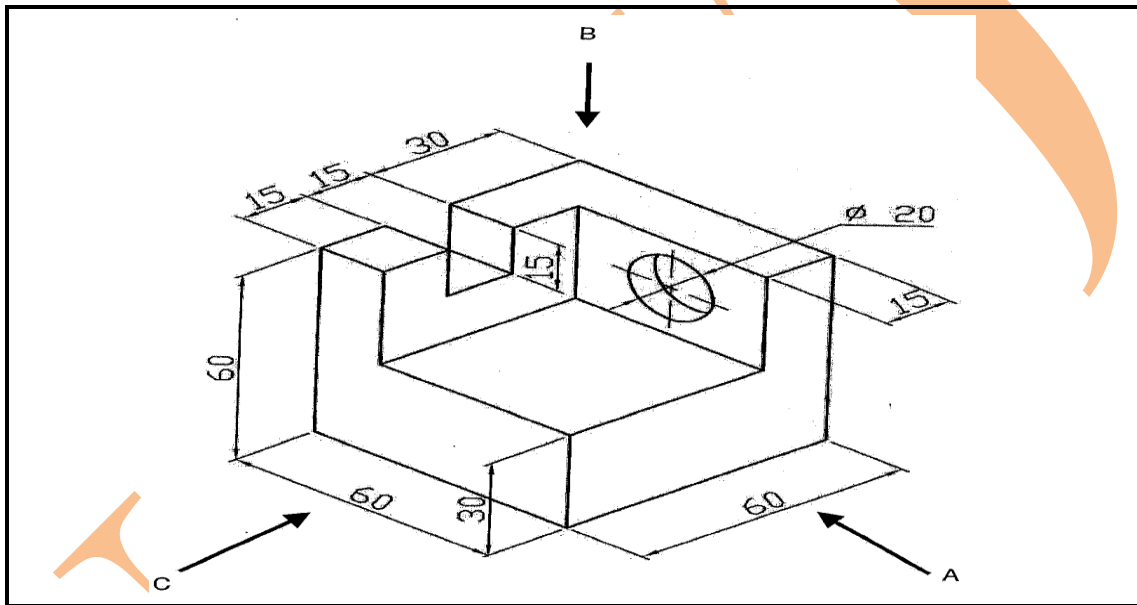

FIGURE 1
- 1.3 FIGURE 1 below, is an isometric view.